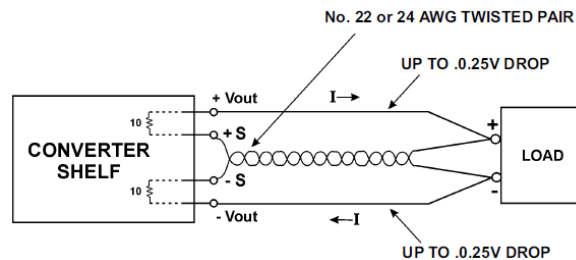

Figure 6 – Remote Sense Connection
11.6 Remote Sensing - Remote sensing connections are made to pins 11 (+Sense) and 23 (-Sense) of the converter rack/shelf J4 connector. Remote sensing is used to regulate the output voltage at the point of load by compensating for the voltage drop in the wires to the load. The +Sense lead must be connected to the + side of the load and the -Sense to the - side of the load. The sense leads should be a color-coded, twisted pair of AWG no. 22 or 24 copper wire. See Figure 6 below.